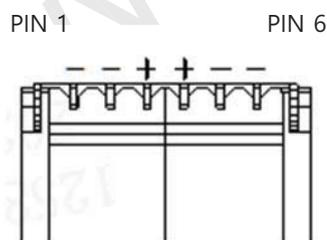

Figure.1 Top view of LED Bar Connector
2. Contrast measurements shall be made at viewing angle of $\theta = 0^\circ$ and at the center of the LCD surface. Luminance shall be measured with all pixels in the view field set first to white, then to the dark (black) state. (See FIGURE 1 shown in Appendix) Luminance Contrast Ratio (CR) is defined mathematically.